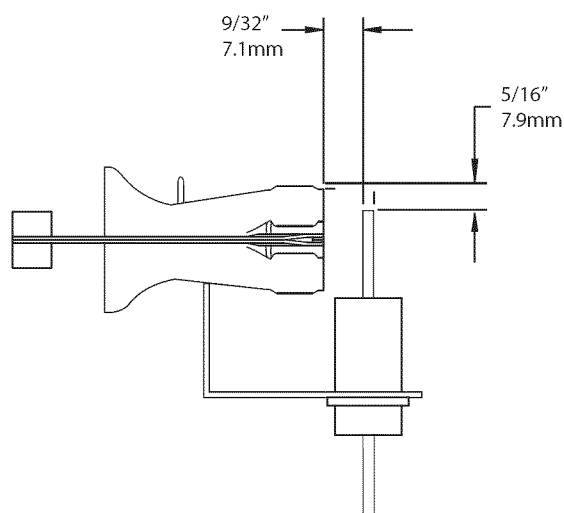

Fig. 40 - Igniter Position - Side View
6. For Silicon Nitride igniters, see Fig. 40 and 41.